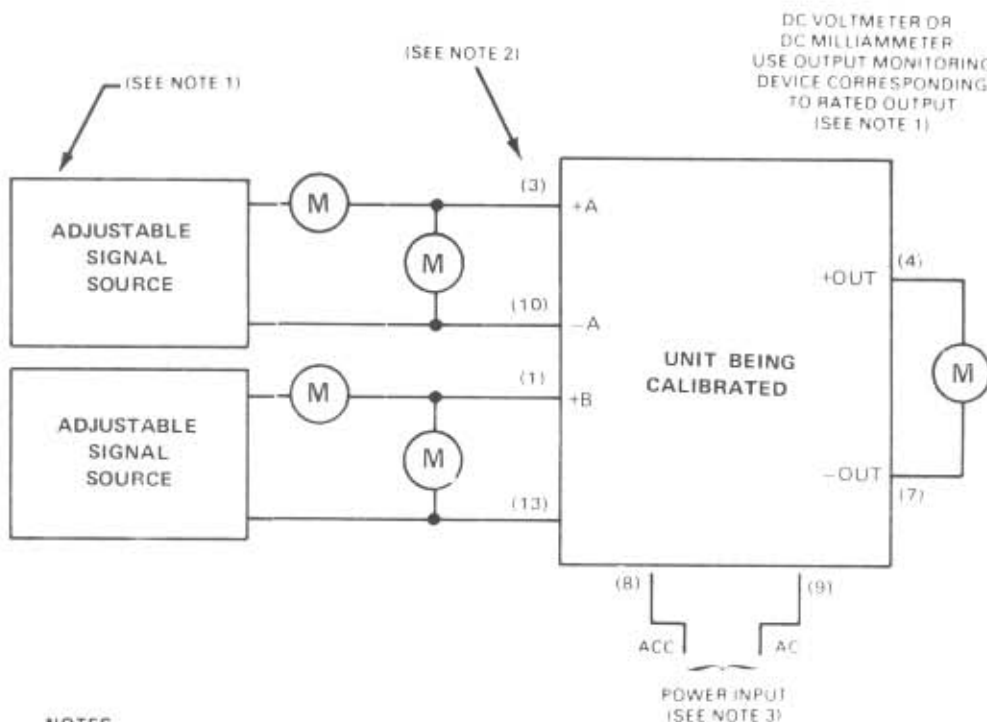

Figure 2-1. Test Equipment Setup For Calibration Of Unit
The test equipment setup required for calibration of all units is identical except for connection identification. Figure 2-1 shows the general test setup configuration. Connection nomenclature refer to terminal markings on the standard units with CP, AB, AA/TA, PM, and NEMA boxes mechanical options.
Plug-in units equipment test setup is the same as the one shown in Figure 2-1, except that printed circuit board connections are identified in that figure by numbers in parentheses. Connection identification numbers are etched in the component side of the PC board. Plug-in units inserted in
a rack also use the test setup shown in Figure 2-1 with card rack terminal connections identified by numbers in parentheses. These include either the rack mount (RMR) or the surface mounted (SMR).
- b. Connect unit and test equipment as shown in Figure 2-1 or 2-2.